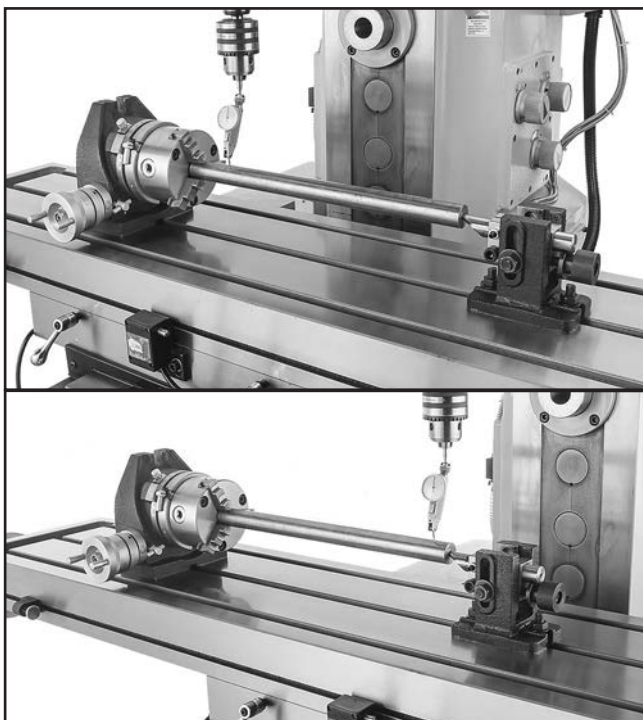

Figure 23. Determining offset of surface.
3. Mount center-drilled, parallel workpiece between chuck and tailstock (see **Figure 23**).
4. Mount a dial indicator in mill spindle and indicate off of a horizontal center line of workpiece near tailstock (see **Figure 23**).